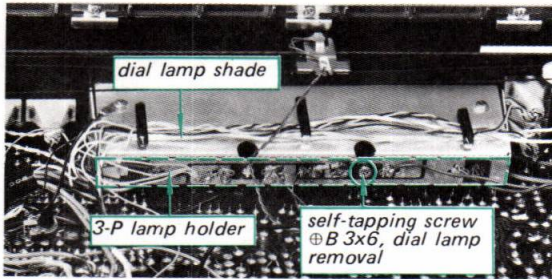

Fig. 2-14. Dial lamp replacement
1. Remove the one self-tapping screw as illustrated in Fig. 2-14, and then install the replacement lamp.